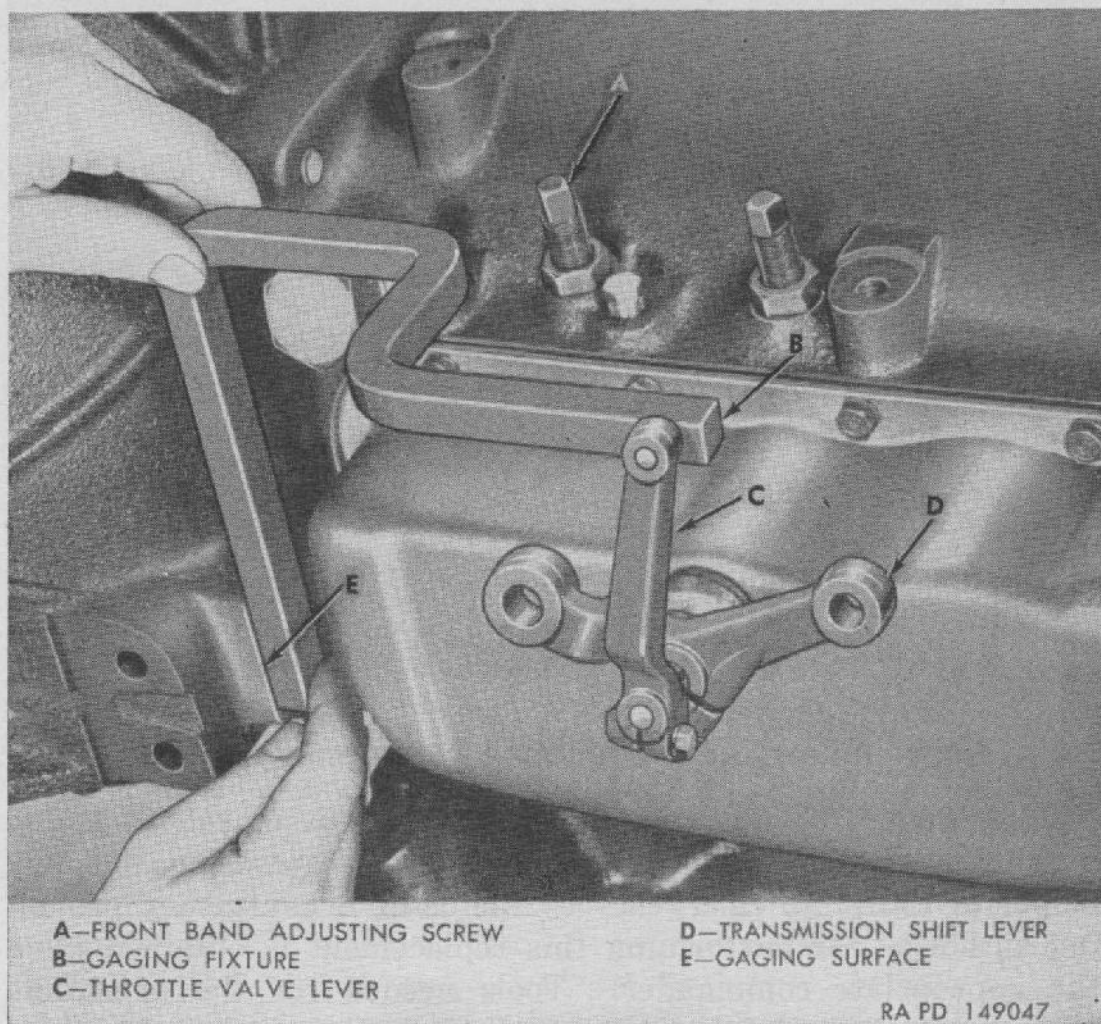

Figure 103. Adjusting throttle linkage using fixture 7950168.
- (1) Hold transmission throttle valve gaging fixture 7950168 against machined surface of flywheel housing rear half, as shown in figure 103. Using clevis pin, check for free